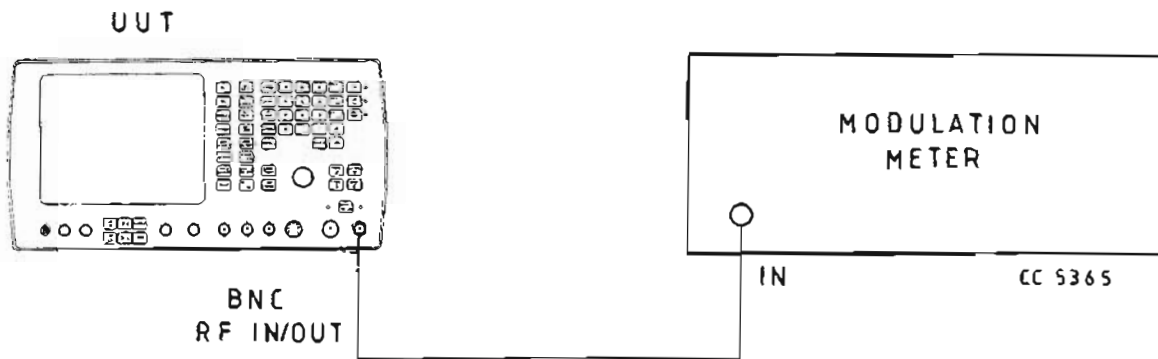

Fig. 12 Test equipment connections for a.m. and f.m. calibration
- (1) Connect the equipment as shown in Fig. 12.
- (2) Set the u.u.t. to RX, r.f. generator frequency 125 MHz, r.f. level 0dBm, modulation frequency 1 kHz, modulation level depth 60%, b.n.c. socket, distortion/SINAD/SN off.
- (3) Set the modulation meter to a.m., (p-p)/2, 0.3 - 3.4 kHz b.p. filter selected.
- (4) Note the modulation depth indicated on the modulation meter.
- (5) Enter the data menu using the 2955 unlocking and data insertion procedure.
- (2) Set the u.u.t. to RX, r.f. generator frequency 165 MHz, r.f. level 0 dBm, modulation frequency 1 kHz, deviation 10 kHz, b.n.c. output socket selected.
- (3) Set the modulation meter to f.m., (p-p)/2, 0.3 - 3.4 kHz b.p. filter selected.
- (4) Note the deviation measured on the modulation meter.